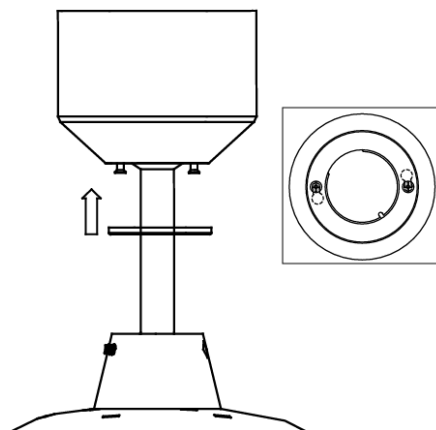

Fig. 6
4. Cover the mounting bracket with the canopy cover. Ensure all electrical wirings are tucked inside the canopy and that they are not damaged during this step, and secure with screws. **Fig. 6**
Zet tenslotte de afdekkap vast op de schroeven door deze met de klok mee draaien. **Fig. 6**